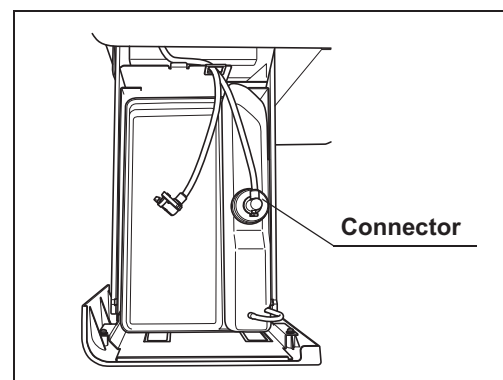

Figure 4.123
- 8** Turn the connector to orientate the tube as shown in Figure 4.123. Confirm that the tube is not bent.